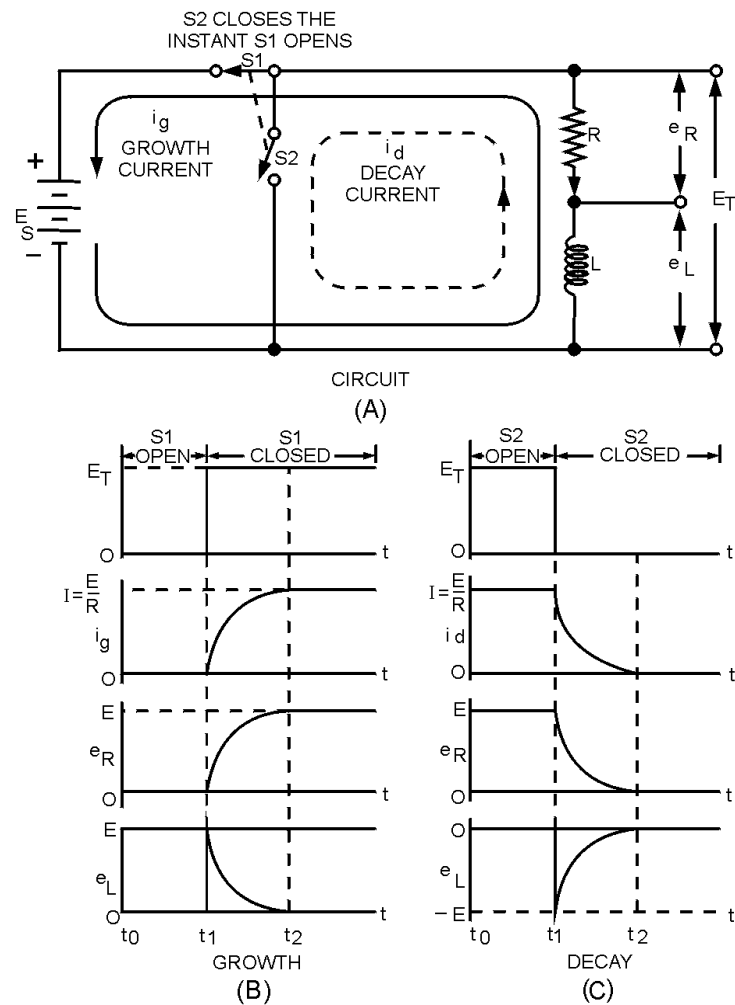

Figure 2-10.—Growth and decay of current in an LR series circuit.
A voltage divider containing resistance and inductance may be connected in a circuit by means of a special switch, as shown in figure 2-10(A). Such a series arrangement is called an LR series circuit.
When switch S_1 is closed (as shown), a voltage E_S appears across the voltage divider. At this instant the current will attempt to increase to its maximum value. However, this instantaneous current change causes coil L to produce a back EMF, which is opposite in polarity and almost equal to the EMF of the source. This back EMF opposes the rapid current change. Figure 2-10(B) shows that at the instant switch S_1 is closed, there is no measurable growth current (i_g), a minimum voltage drop is across resistor R , and maximum voltage exists across inductor L .
growth current (i_g) is increased and consequently e_R is increased. Figure 2-10(B) shows that the voltage across the inductor (e_L) finally becomes zero when the growth current (i_g) stops increasing, while the voltage across the resistor (e_R) builds up to a value equal to the source voltage (E_S).
When the battery switch (S_1) in the LR circuit of figure 2-10(A) is closed, the rate of the current increase is maximum in the inductive circuit. At this instant all the battery voltage is used in overcoming the emf of self-induction which is a maximum because the rate of change of current is maximum. Thus the battery voltage is equal to the drop across the inductor and the voltage across the resistor is zero. As time goes on more of the battery voltage appears across the resistor and less across the inductor. The rate of change of current is less and the induced emf is less. As the steady-state condition of the current is approached, the drop across the inductor approaches zero and all of the battery voltage is "dropped" across the resistance of the circuit.
Figure 2-10(C) shows that when switch S_2 is closed (source voltage E_S removed from the circuit), the flux that has been established around the inductor (L) collapses through the windings. This induces a voltage e_L in the inductor that has a polarity opposite to E_S and is essentially equal to E_S in magnitude. The induced voltage causes decay current (i_d) to flow in resistor R in the same direction in which current was flowing originally (when S_1 was closed). A voltage (e_R) that is initially equal to source voltage (E_S) is developed across R . The voltage across the resistor (e_R) rapidly falls to zero as the voltage across the inductor (e_L) falls to zero due to the collapsing flux.